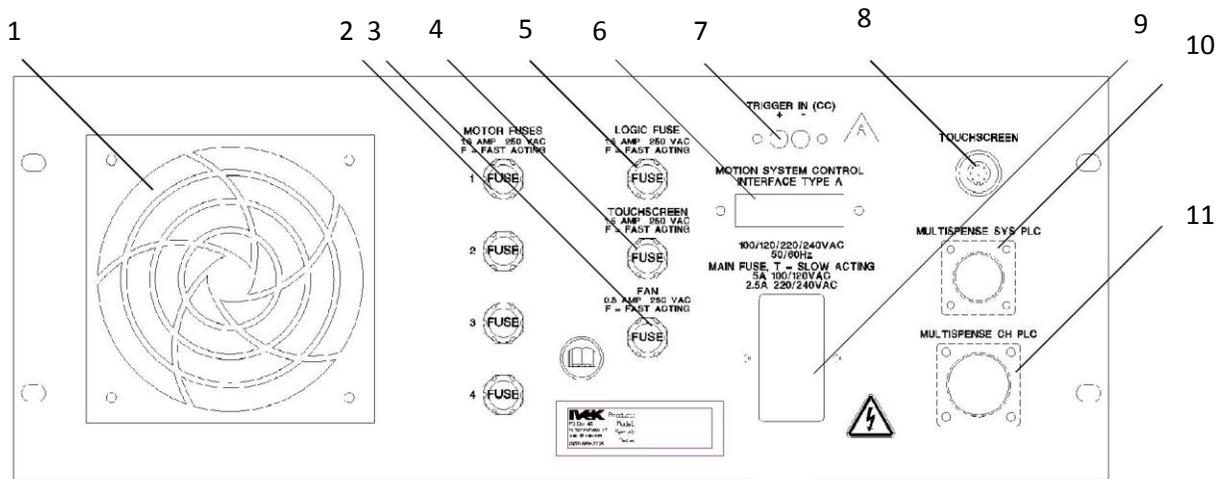
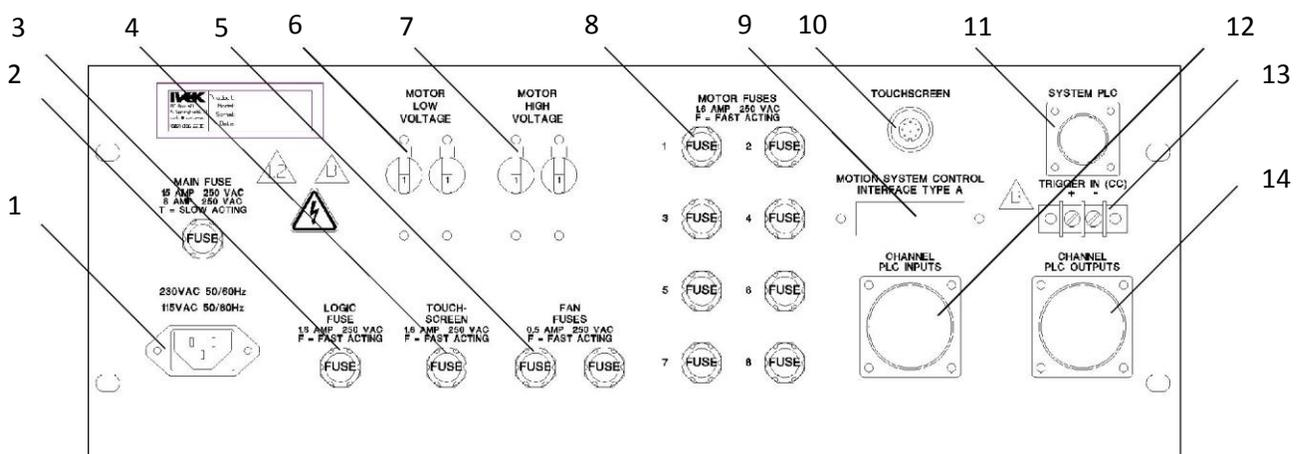

Figure 3.2A Multispense 900 1 - 4 Channel Controller Module Rear Panel
Figure 3.2B Multispense 900 5 - 32 Channel Controller Module Rear Panel
The rear panel of your Controller Module will look similar to either Figure 3.2A or Figure 3.2B. If your system is 4 or less channels it will look similar to Figure 3.2A. If your system is 5 or more channels it will look similar to Figure 3.2B.
3.1.2.1 Fan (Figure 3.2A Item 1)
3.1.2.2 Motor Fuse Holder and Fuse (Figure 3.2A Item 2 and Figure 3.2B Item 8)
3.1.2.3 Fan Fuse Holder and Fuse (Figure 3.2A Item 3 and Figure 3.2B Item 5)
3.1.2.4 Touchscreen Fuse Holder and Fuse (Figure 3.2A Item 4 and Figure 3.2B Item 4)
3.1.2.5 Logic Fuse Holder and Fuse (Figure 3.2A Item 5 and Figure 3.2B Item 3)
3.1.2.6 Motion System Control Interface Type A Connector (Figure 3.2A Item 6 and Figure 3.2B Item 9)
3.1.2.7 Trigger In Terminal Block (Figure 3.2A Item 7 and Figure 3.2B Item 13)
3.1.2.8 Touchscreen Connector (Figure 3.2A Item 8 and Figure 3.2B Item 10)
3.1.2.9 Power Entry Module (Figure 3.2A Item 9)
3.1.2.10 System PLC Connector (Figure 3.2A Item 10 and Figure 3.2B Item 11)
3.1.2.11 Channel PLC Inputs and Outputs Connector (Figure 3.2A Item 11 and Figure 3.2B Items 12 and 14)
3.1.2.12 Power Cord, Main Fuse Holder and Fuse (Figure 3.2B Items 1 and 2)
3.1.2.13 Motor Low Voltage Circuit Breaker (Figure 3.2B Item 6)
3.1.2.14 Motor High Voltage Circuit Breaker (Figure 3.2B Item 7)